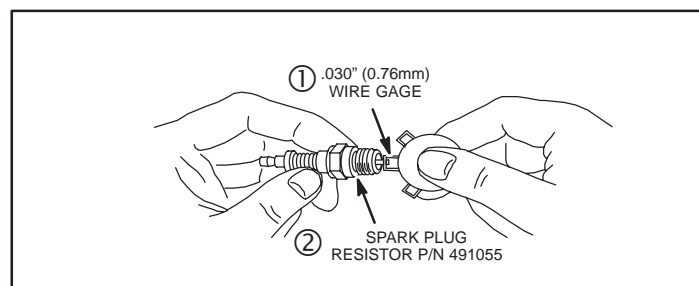

Fig. 2
- Before installing new spark plug, check gap and set to 0.030 in. (0.76 mm) if required, see Fig. 2.